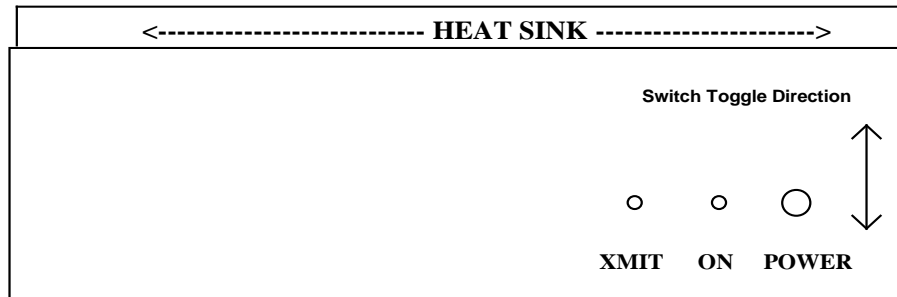

Figure 5 Switch / LED Mounting Positions
Place the finished circuit board over the eight 4-40 screws and gently push flat against the nuts. Place two nuts on opposite corners on the screws extending through the PCB and tighten evenly. Do not install or tighten other nuts in place until electrical testing is completed. For now, install the power switch in the remaining 1/4" hole using the supplied hardware. Mounting of the switch should be so it is toggled per Figure 5.
- Place the "ON" LED in the wall mounting hole (see Figure 5) and place the previously formed lead in the plated through hole closest to the edge of the board and solder.